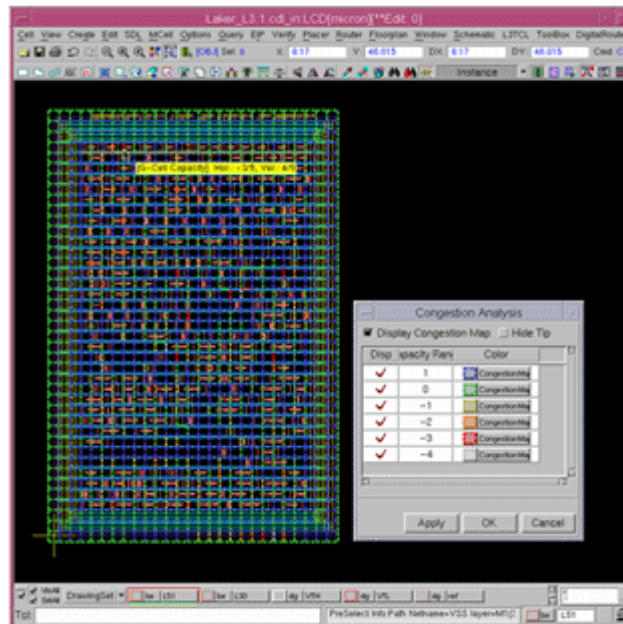

Figure 2: Optimize Placement and Routing Channels Using Congestion Maps
- Unique hybrid routing technology combines grid-and shape-based routing for very high route completion rates. Global routing enables congestion analysis, mapping, and display during the floor-planning and placement stage (see Figure 2).